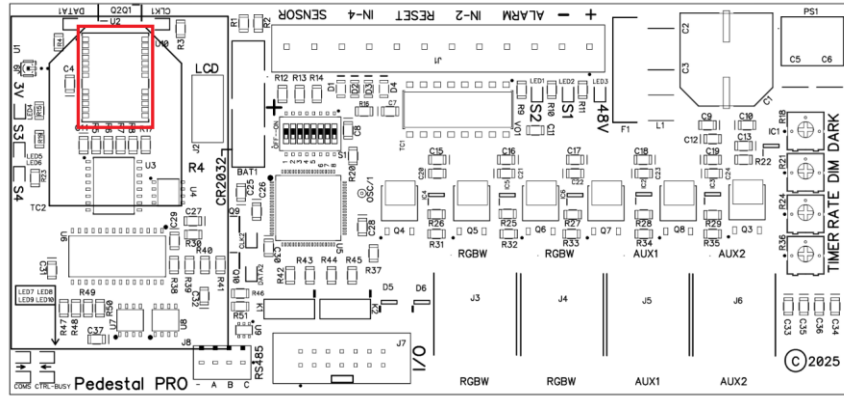

Figure 10 Control board layout showing the location of the ethernet port.
- Insert one end of this ethernet cable into the ethernet module on the BLH control board (see Figure 10).